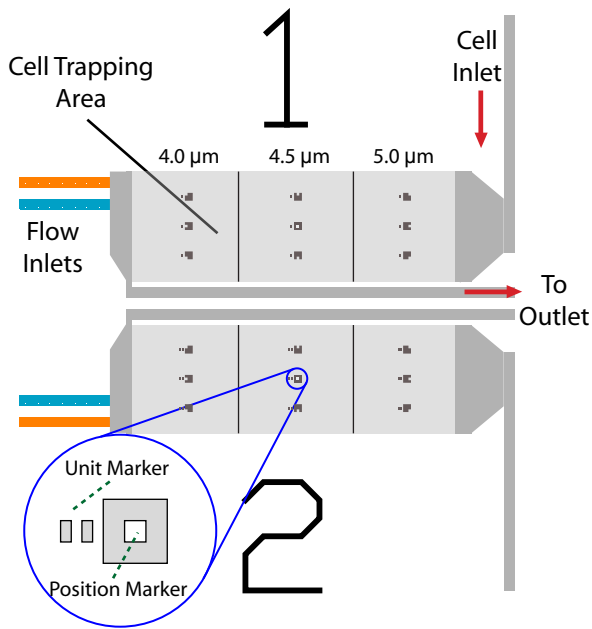

Figure 2 Trap Area
5. Place assembly on an inverted microscope. Focus on the center of the "imaging" area. The trapping region is $1 \times 3 \text{mm}$ in size with 4.0, 4.5, and 5.0 micron ceiling heights in series as depicted in Figure 2.